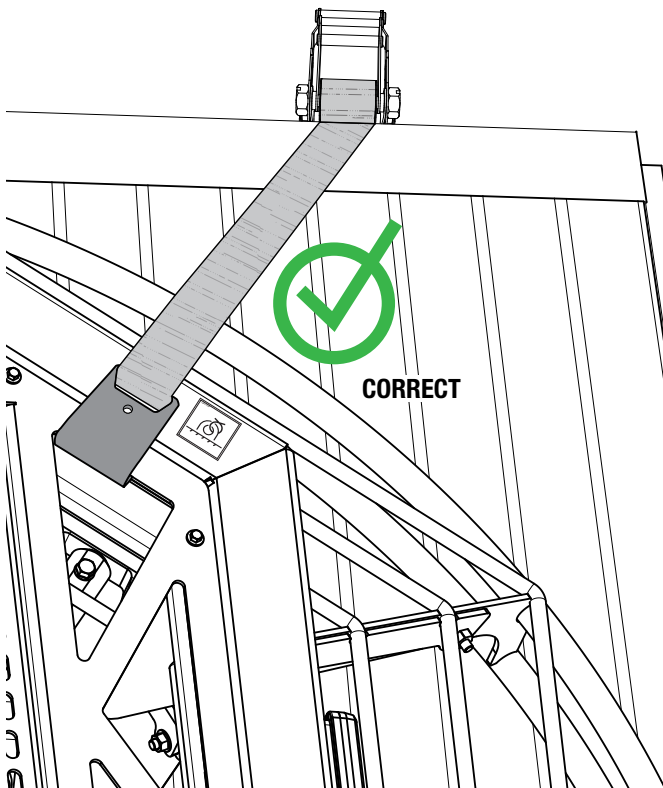
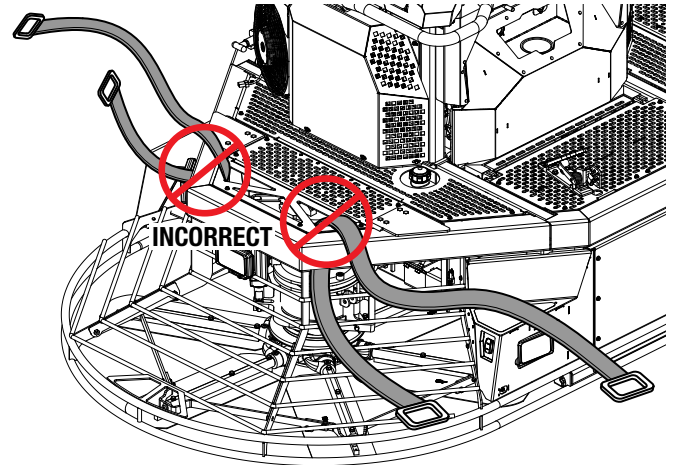

Figure 9. Tie-Down Method (Correct)
Figure 10. Tie-Down Method (Incorrect)
2. Attach suitable tie-down straps to the locations marked by the tie-down symbols. Be sure to connect the tie-down strap hooks directly to the trowel as shown in Figure 9. **DO NOT** wrap the tie-downs around the frame as shown in Figure 10.